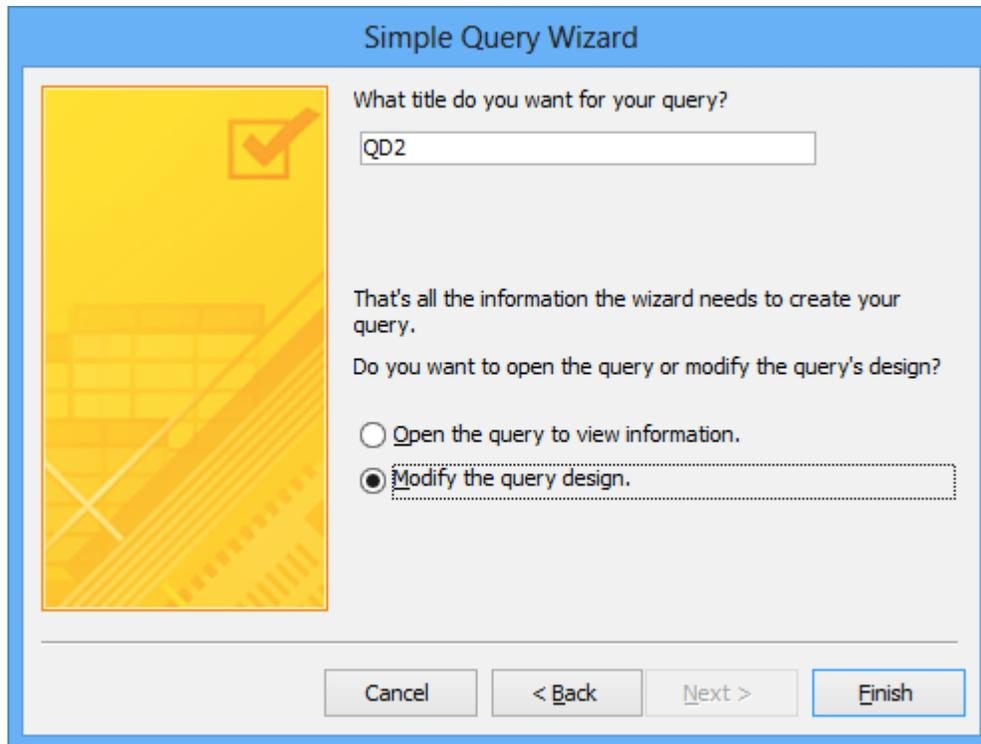
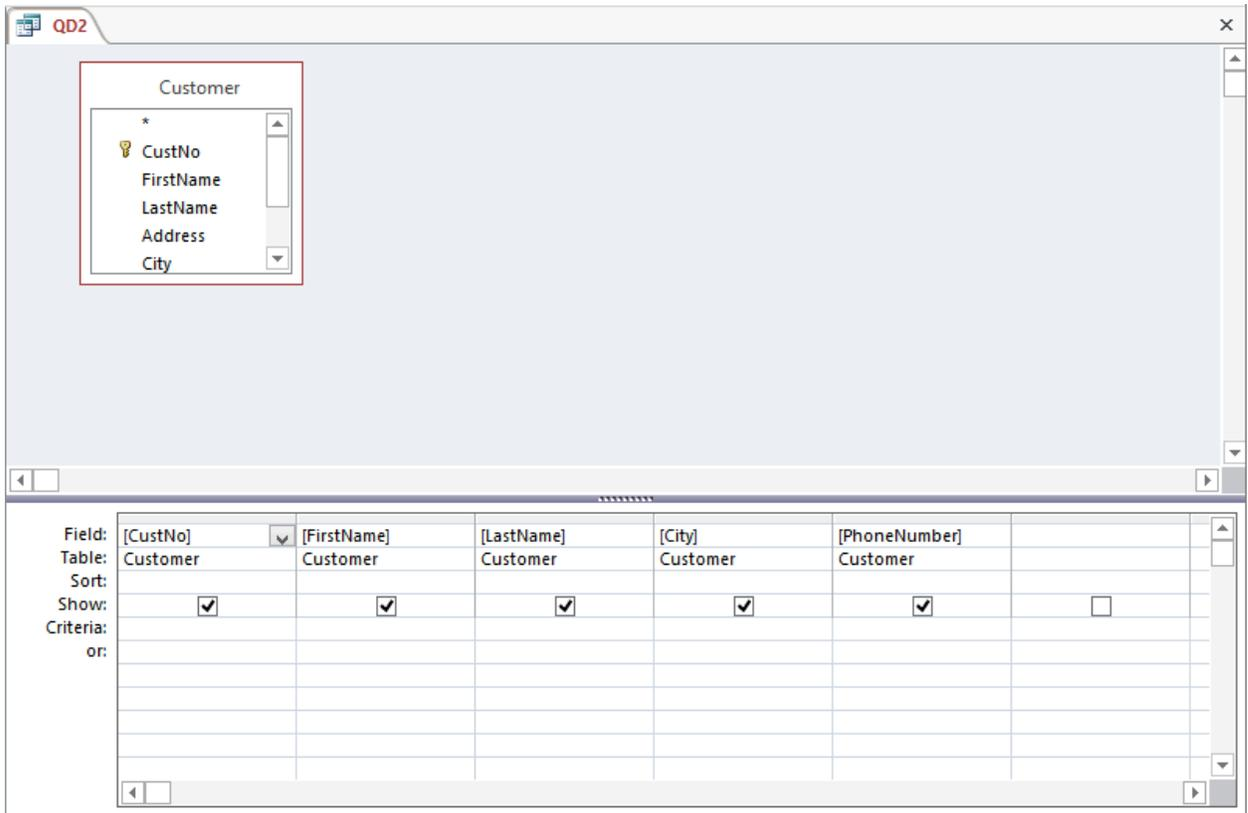

Figure 13: Final Wizard Window
Figure 14: Query Design Window of “QD2”
8. Finish the Query Wizard: In the final wizard window (Figure 13), name the query “QD2”. Below you are asked if you want to open the query or modify its design. Choose the second option, “Modify the query design.”, and click **Finish**. The design view of “QD2” (Figure 14) appears ready for you to modify.
6. **Open the Query Design Window:** Right-click the query in the navigation pane. The design view of “QD3” appears on the screen containing the copied “QD2” query ready for you to change (refer back to Figure 14).